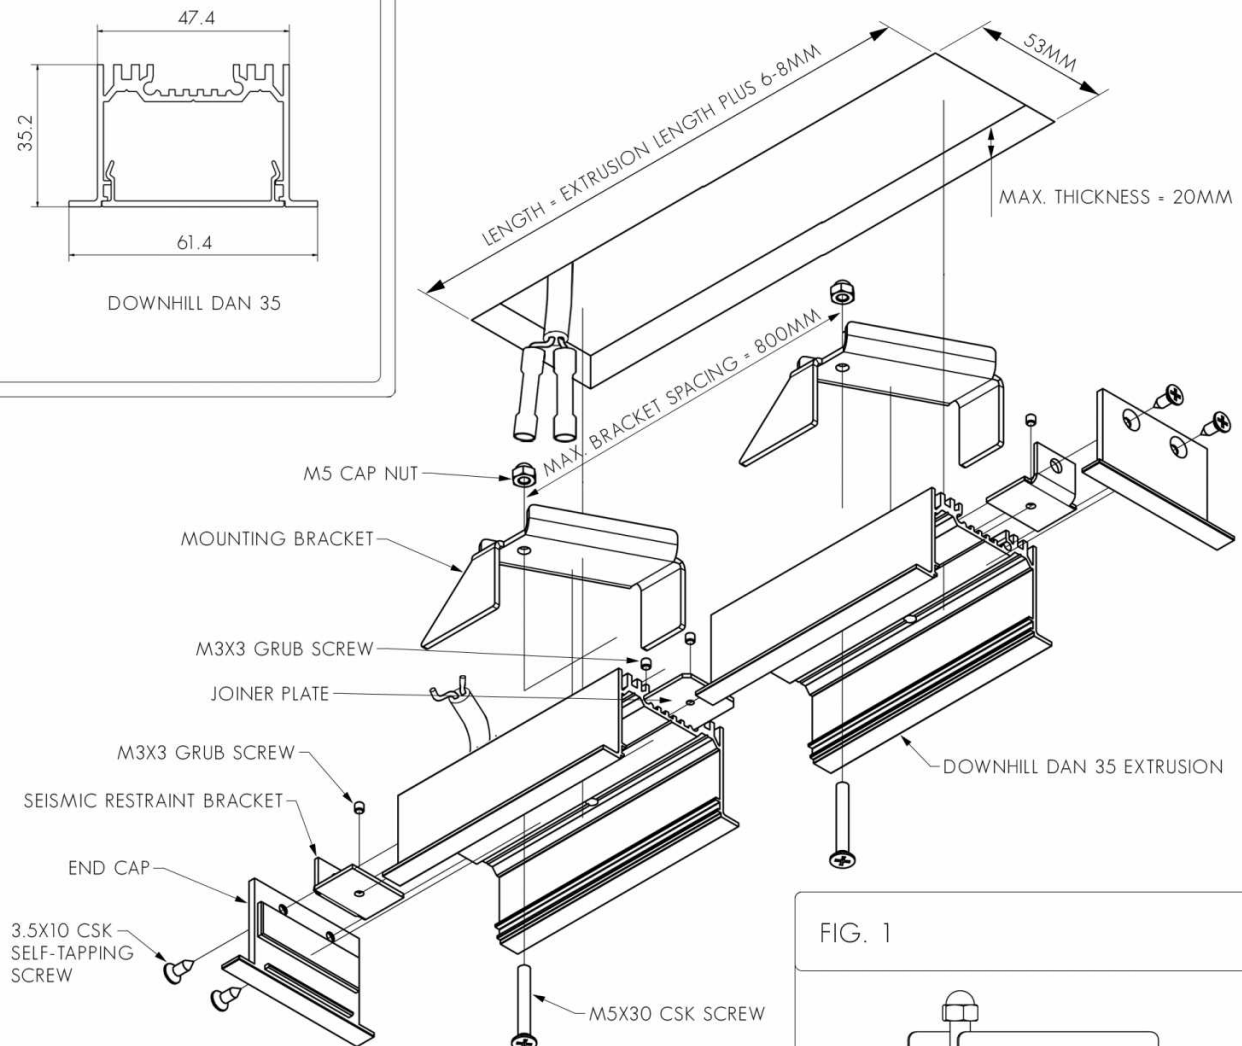

FIG. 1
6. DRILL 5MMØ HOLES IN EXTRUSION FOR MOUNTING BRACKETS (SEE FIG. 1 AND NOTE BELOW). INSERT M5X30 CSK SCREWS AND SCREW INTO MOUNTING BRACKETS, JUST FAR ENOUGH TO FIT M5 CAP NUTS. TIGHTLY SCREW ON M5 CAP NUTS. MOUNTING BRACKETS SHOULD BE NO MORE THAN 800MM APART AND SHOULD BE WITHIN 200MM OF AN END OR JOIN.